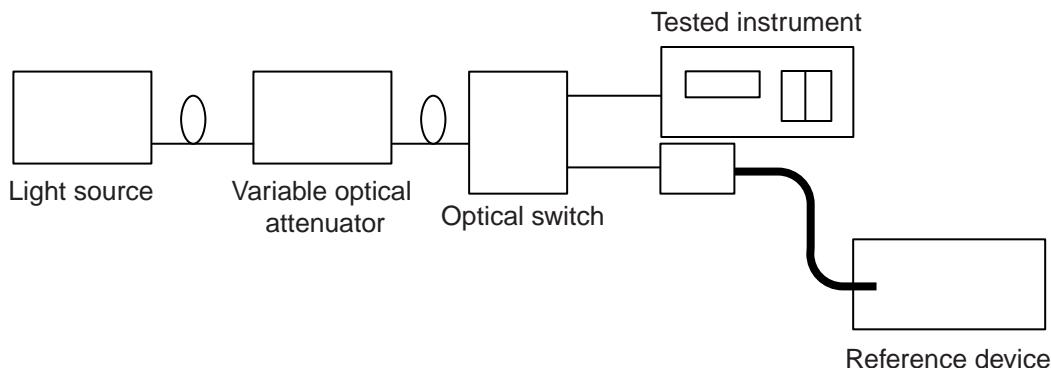

Fig. 5-2
1. Set up the measurement system as in Fig. 5-2.